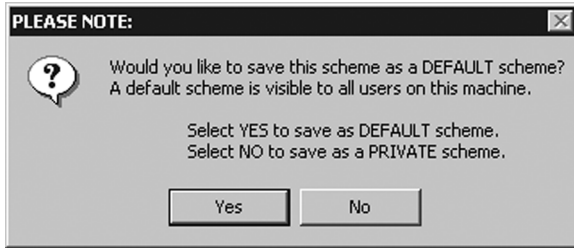

Figure 26
**Note:** If you make any changes to any of the settings of one of the three default schemes, the Current Scheme field will blank and you **MUST SAVE** your changes by clicking on the **“Save As ...”** button. When you click on the **“Save As ...”** button, the name of the last scheme you used will be automatically displayed, you can then choose to use that scheme name or enter a new name. If you enter a name other than one of the three default scheme names, the program will ask you if you wish to save the scheme as a **DEFAULT** scheme (figure 26 on page 72). Click **“Yes”** to save the settings scheme as a **DEFAULT** scheme, click **“No”** to save the scheme as a **PRIVATE** scheme. After you have saved the scheme, then click **OK** and the new scheme will be in effect.